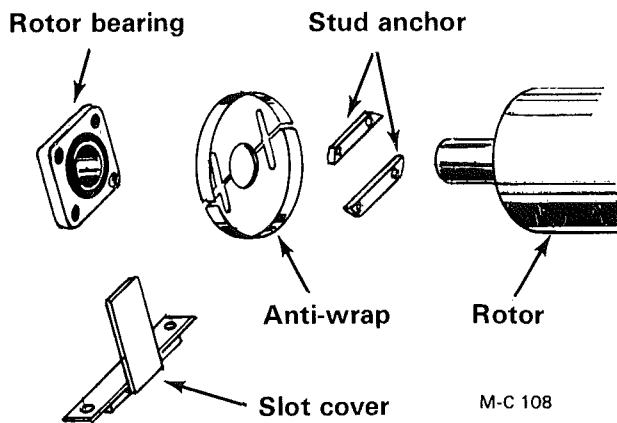

Figure 40
4. Place the four mounting capscrews through the bearing and mower body. Slide the anti-wrap and stud anchors into position as shown in Figure 40 and thread the capscrews into the stud anchors. Tighten the capscrews and set screw. Remove safety stands and lower the mower to the ground.
6. Place the four mounting capscrews through the bearing and mower body. Slide the anti-wrap and stud anchors into position as shown in Figure 40 and thread the capscrews into the stud anchors. Tighten the capscrews and set screw.